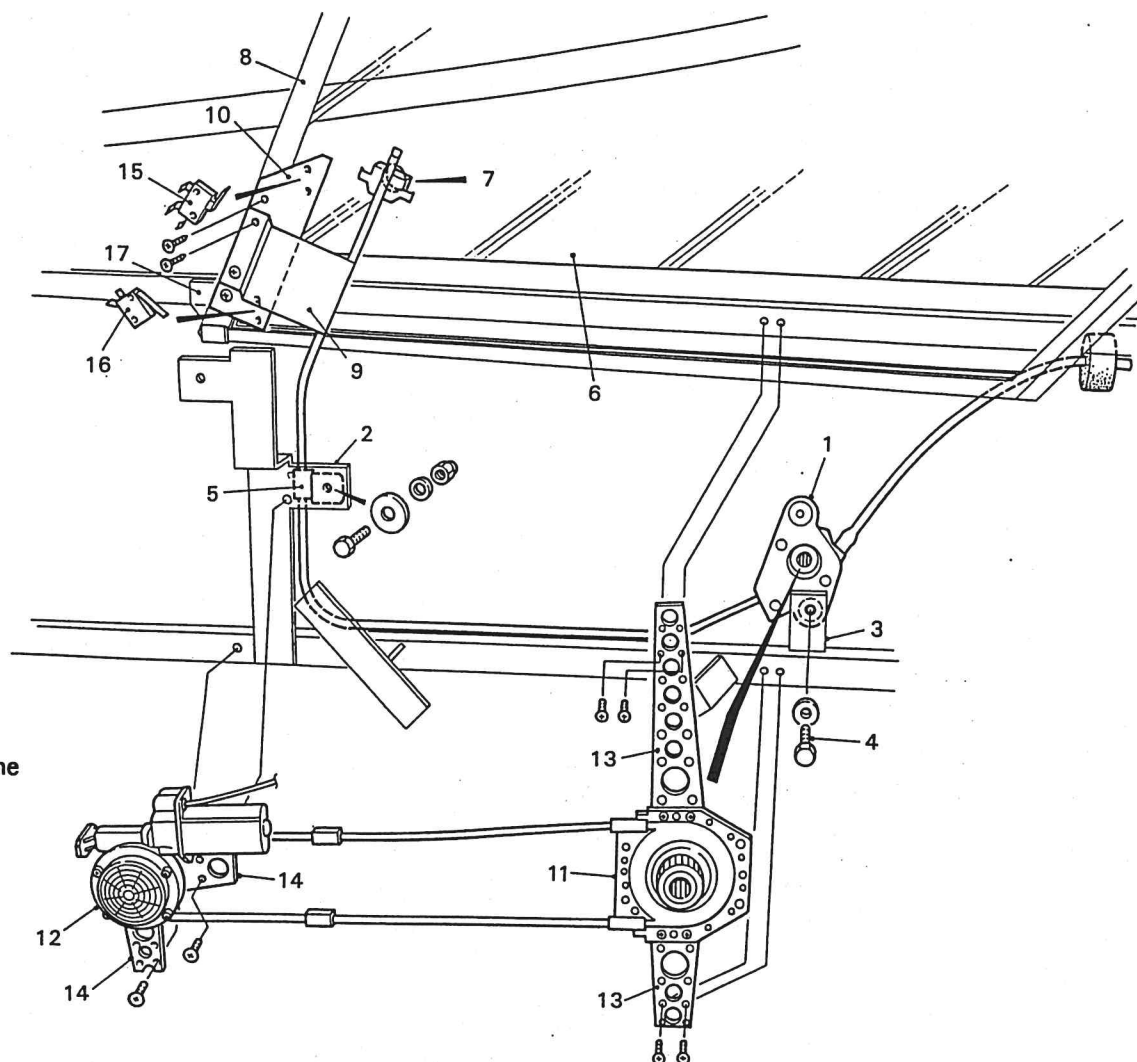

Fig. 3 Window Winding Worm Drive
1. Refer to Fig. 3. Straighten out the rear bend on each worm drive (1) until it lies at an angle of approximately 40 deg. to the horizontal.
2. Bend the worm drive above the bracket at the front (2) to an angle of approximately 40 deg. to the vertical.
3. Check finally on the correct door and also check the position for the small right-angled bracket (3) that will secure the worm drive.